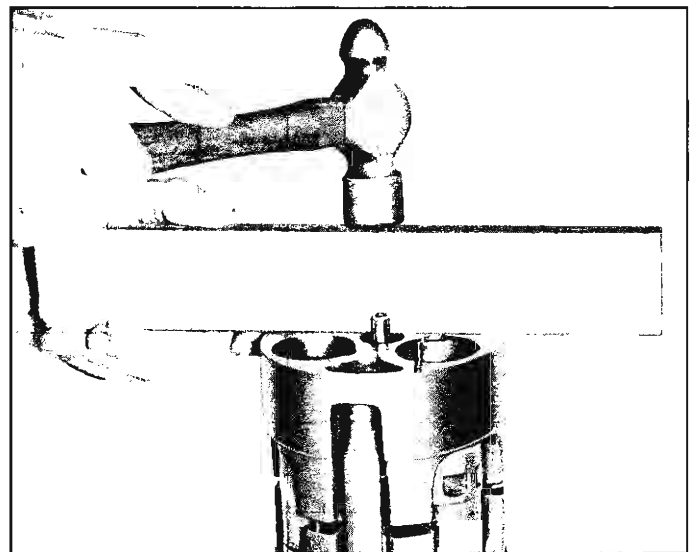

Fig. 33—Assembling Cylinder Halves
10. Align the rear head casting with bores, suction passage, discharge crossover holes, and dowel pins. Tap into place, using a plastic block and mallet (fig. 33).